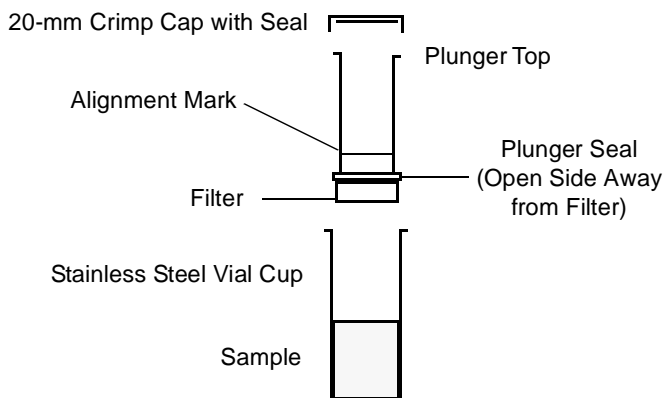

Figure 3-27 Assembling a Filter Vial with Sample
6. Assemble 7-mL sample filter vials (Figure 3-27):